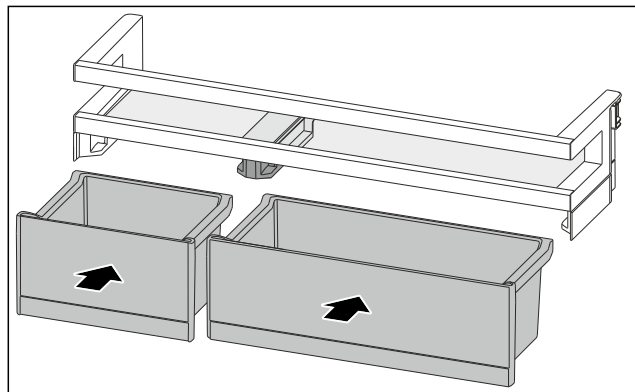

Fig. 155
- ▶ Insert the VarioBoxes in reverse order. (see Fig. 155)